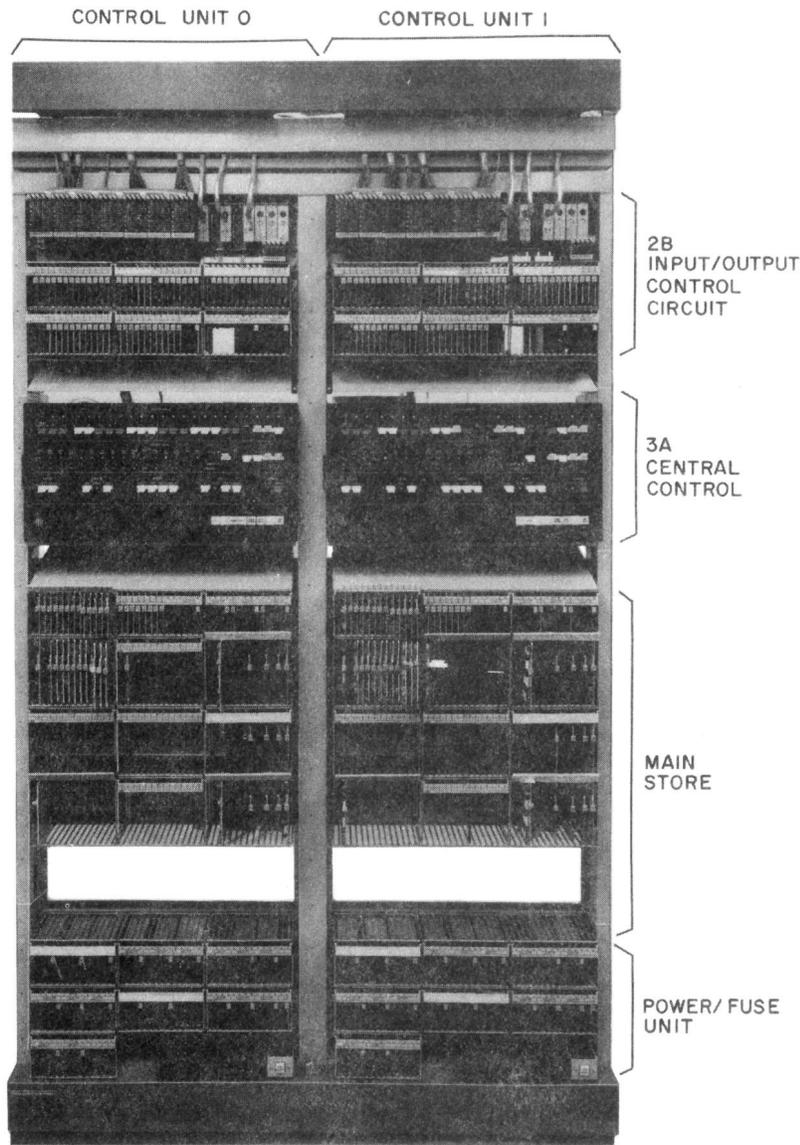

Fig. 1—No. 2B Processor Frame
1.01 This section provides a physical and functional description of the 2B Input/Output (I/O) control circuit (Fig. 1) of the 2B Processor and its associated interfaces with peripheral equipments.
**2.01** The 2B I/O control circuit is located in the processor frame immediately above the 3A CC control panel as shown in Fig. 1. The 2B I/O control circuit consists of 64 circuit packs. Figure 2 shows the physical location of these circuit packs. The implementation of the 2B I/O control circuit required the development of 11 new circuit packs. A description of each unique circuit pack and a statement about the circuitry it contains is provided in Part 5 of this section.